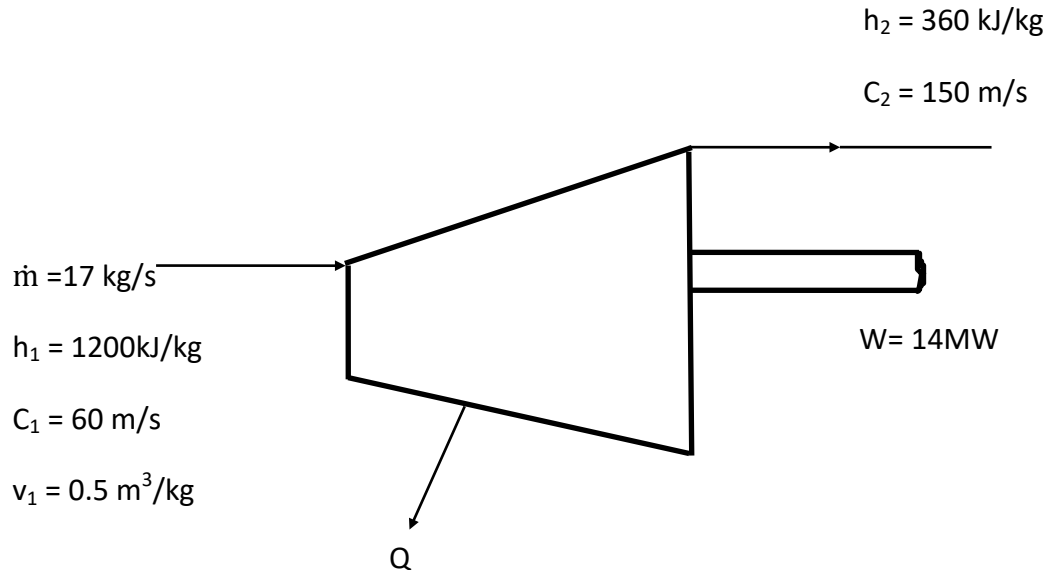

Figure 1[b]
- [b] A turbine is shown in Figure 1[b]. The turbine power output is 14MW. Inlet and exit conditions are shown in the figure. Calculate: